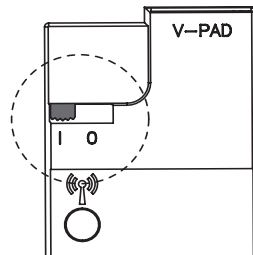

Figure 1 - Back of unit
2. Move the battery switch from 0 to I (see *figure 1*). The LEDs on the front of the Controller will light up in the following sequence: Fire (Red), CO (Red), and the status indicator will flash Red-Blue-Green.